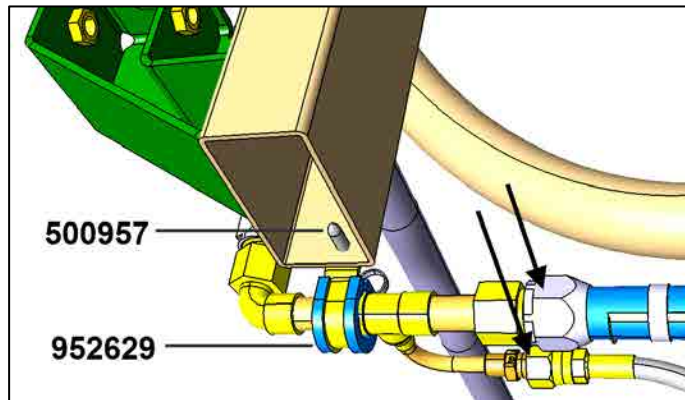

Figure 10
11. Install hot gas pickup tube on vertical tube next to engine door springs with clamp #952629 and binding screw 500957. (Fig. 10)